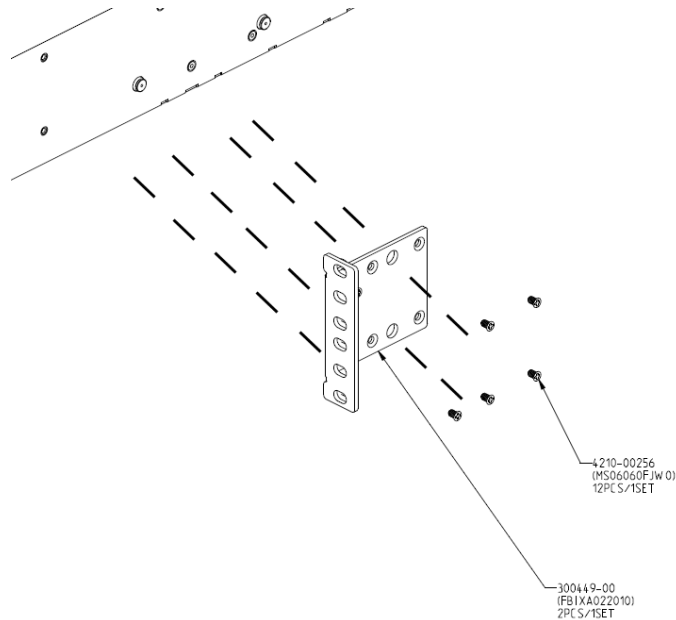

Figure 21: Attaching a Short Mounting Bracket (Ear): Middle of Device
- a. Position the bracket so that the flange (ear) is positioned slightly more than halfway between the front and back of the device, as shown in Figure 21.
See Figure 21.